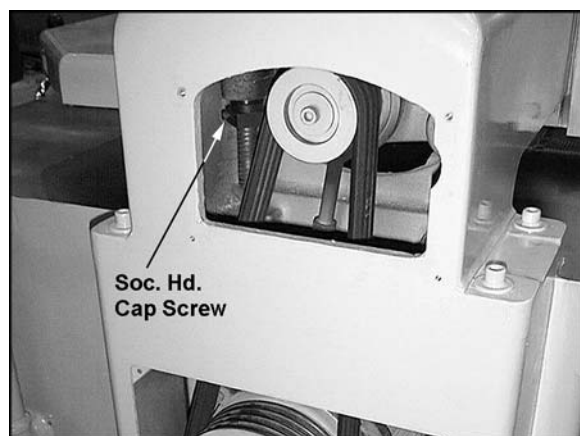

Figure 16
2. Loosen the socket head cap screw on the stop mechanism (Figure 16).